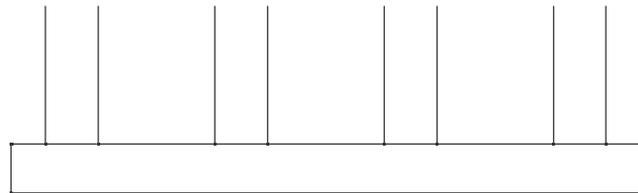

Fig.2.2.2.3 Continuous footing
**(iv) Mat Footing/Raft Footing:** If the load on the column is quite high (Multistorey columns) or when the SBC of soil is low, the sizes of isolated columns may work out to be to such an extent that they overlap each other. In such situation a common footing may be provided to several columns as shown in Fig. 2.2.2.4 Such footings are known as raft footings.